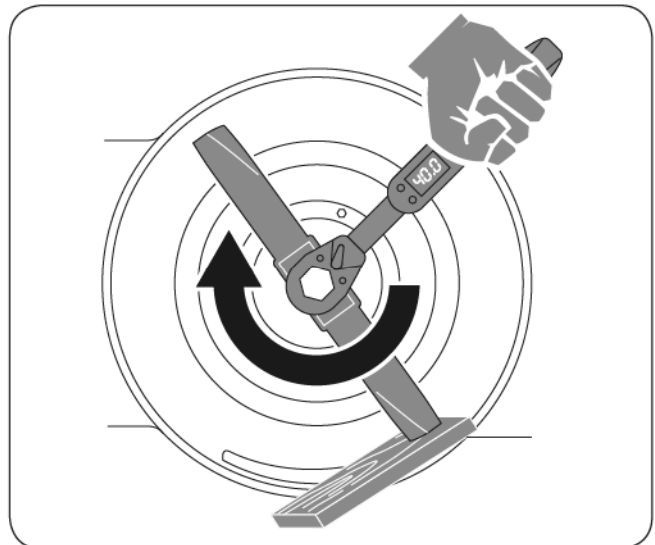

Figure 18
5. Install the new blade. Use a block of wood between the blade and lawn mower housing and tighten the blade bolt, turning clockwise. The recommended tightening torque is 33.3-40 ft.-lb. (45-55 Nm). (See Figure 18)